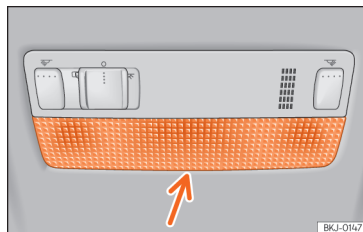

Fig. 175 Front reading light.
- Insert a thin screwdriver between the casing and the glass >>> **Fig. 175**.